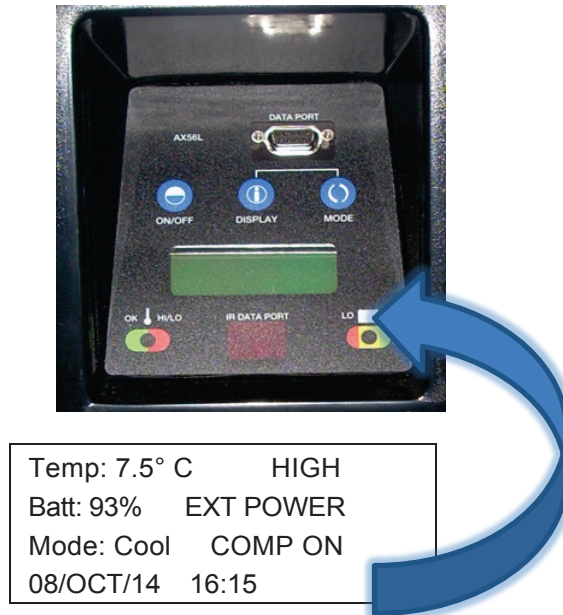

Figure 10. LCD Line 2 Battery Charge Level (93%) Example
1. If the unit is operating on internal battery power only, the unit will run and the second row of text on the LCD will display "Batt %". When operating on AC power, the unit will run and the second row of text on the LCD will display "Batt XX% EXT POWER." (Figure 10) This verifies that the AC power is connected.